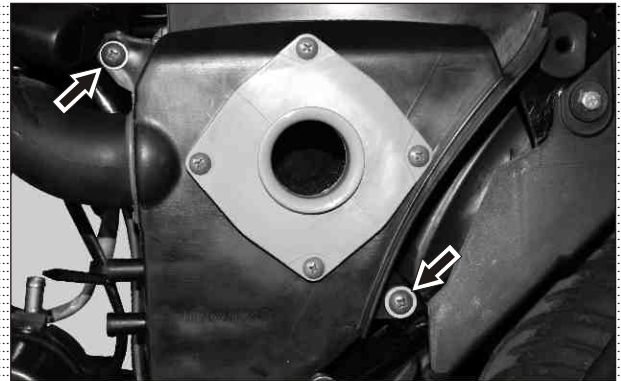

Fig. 3.31
- Remove CRR pan head screw (M6x16 - 2 nos) along with punched washer from the air cleaner mounting. (Fig. 3.31)